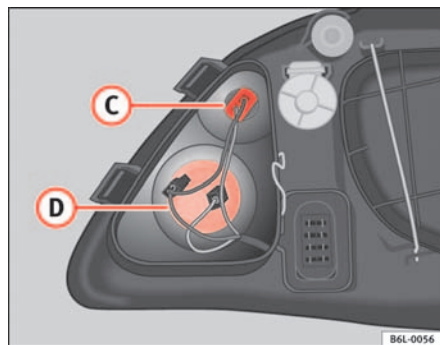

Fig. 147 Side lights
- Pull on the cables to release the lamp holder from the casing (C) ⇒ fig. 147.